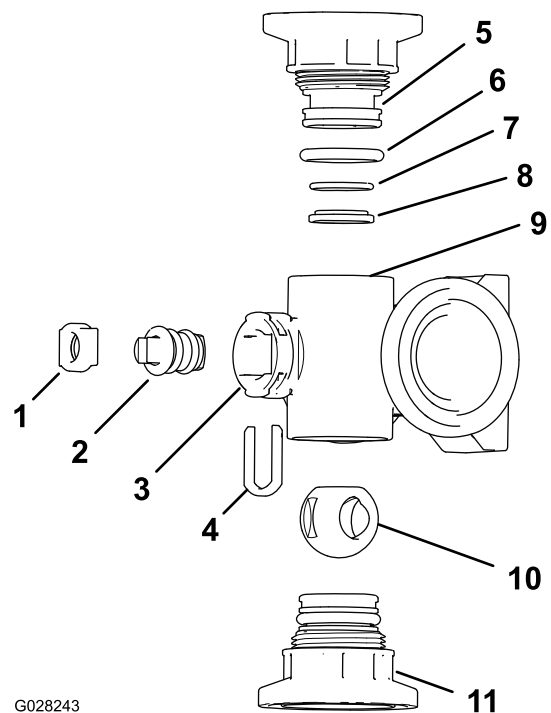

Figure 120
2. Remove the 2 end-cap-fitting assemblies from each end of the manifold body (Figure 120 and Figure 121).
- Remove the stem retainer from the slots in the stem port in the manifold (Figure 120 and Figure 121).
- Remove the stem retainer and valve stem seat from the manifold (Figure 120 and Figure 121).
- Reach into the manifold body and remove the valve-stem assembly (Figure 120 and Figure 121).
- Check the condition of the outlet fitting O-rings (section valve manifold only), end cap O-rings, back seating O-rings, and ball seat for damage or wear (Figure 120 and Figure 121).
- Apply grease to the valve stem and insert it into the valve stem seat (Figure 120 and Figure 121).
- Install the valve stem and seat into the manifold and secure the stem and seat with the stem retainer (Figure 120 and Figure 121).
- Ensure that the back seating O-ring and the ball seat are aligned and seated into the end-cap fitting (Figure 120 and Figure 121).
- Install the end-cap fitting assembly onto the manifold body until the flange of the end-cap fitting touches the manifold body (Figure 120 and Figure 121), then turn the end-cap fitting an additional 1/8 to 1/4 turn.